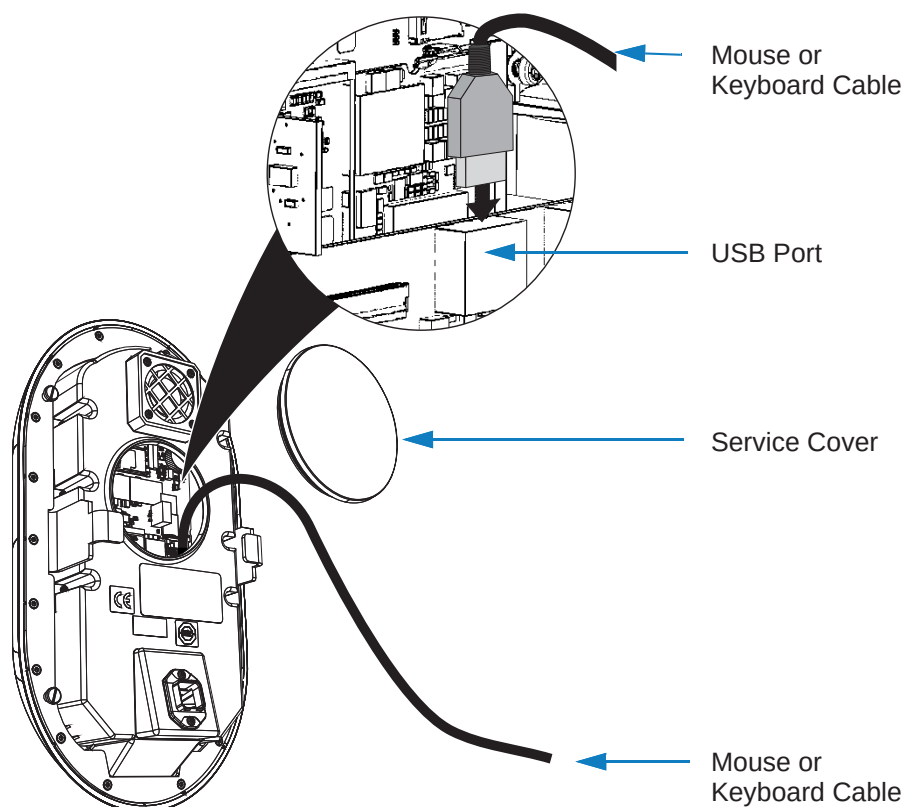

Figure 6-1 Connecting a USB Mouse or Keyboard to the Base Unit
- Step 2** Remove the service cover on the back of the base unit, see **Figure 6-1**.